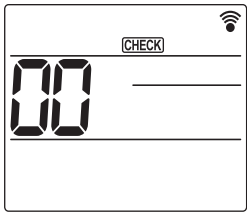

Fig. 6-7
- ① Turn on the power to the unit at least 12 hours before the test run.
- ② Press the **[MENU]** button for 5 seconds. (Fig. 6-7)